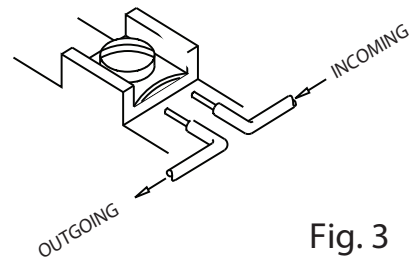

Fig. 3
1. The Model VSR (EU) has two switches, one can be used to operate a central station, proprietary or remote signaling unit, while the other contact is used to operate a local audible or visual annunciator.
2. For supervised circuits, see "Switch Terminal Connections" drawing and warning note (Fig. 3)